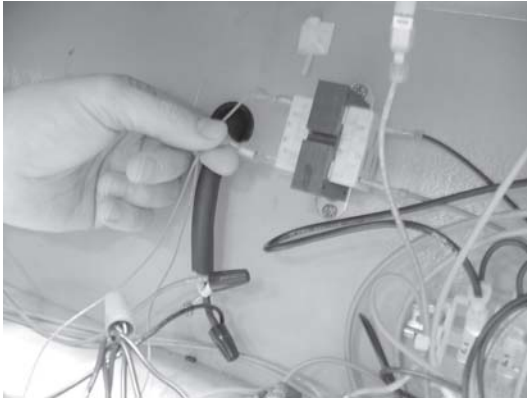

Figure 1
3. Label and disconnect the wires from the transformer terminals, and using a multimeter, or ohm meter, check ohm rating. Figure 1. The ohm ratings should be: